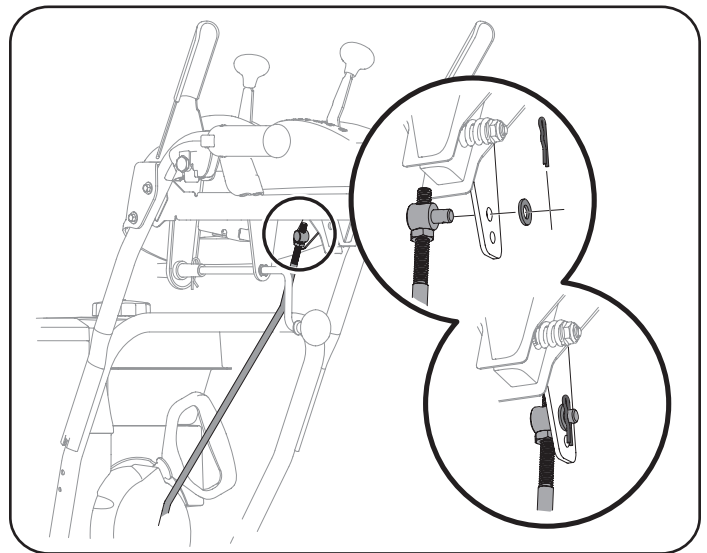

Figure 31
8. Remove cotter pin and washer from ferrule on end of shift rod. See Figure 31 inset.
10. Insert ferrule into top hole of shift lever and secure with cotter pin (a) and washer (b) removed in Step 8. See Figure 31. Ferrule may need to be adjusted up or down.